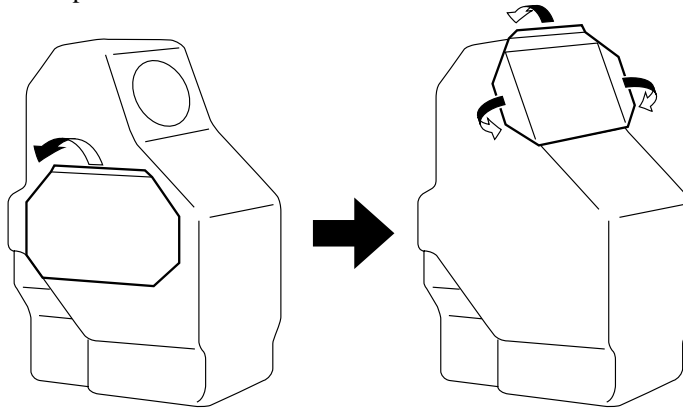

Fig. 5-12 Seal the Sealing Sticker
3. Peel off the sealing sticker on the left side of the Waste Toner Pack. Seal the opening with the sealing sticker. See Fig. 5-12 for the correct placement of the sticker.